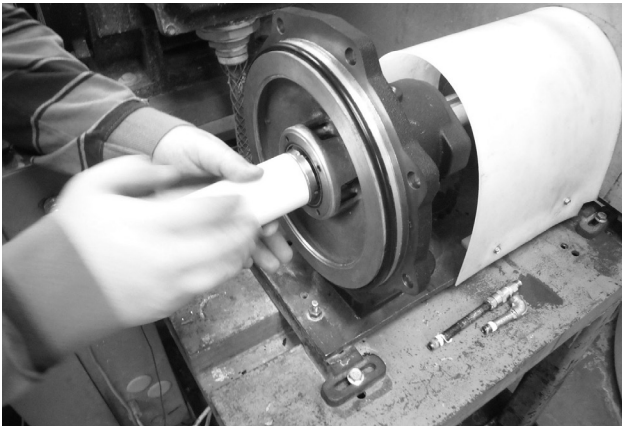

Figure 5
3. Install the rear rotary portion of the mechanical seal onto the pump shaft, using the provided seal tool and water as a lubricant (Figure 5).